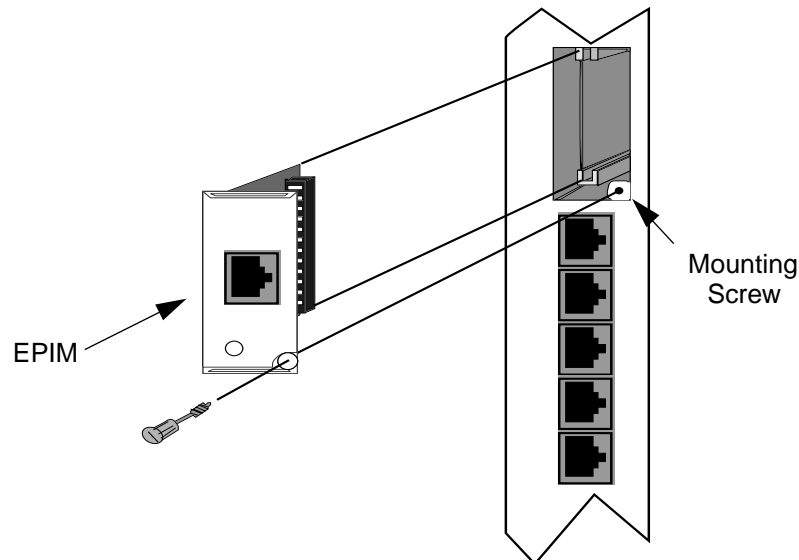

Figure 2-3. Installing an EPIM
2. Slide your new EPIM into place, making sure the connectors on the rear of the module and inside the HUB attach properly. Refer to Figure 2-3.